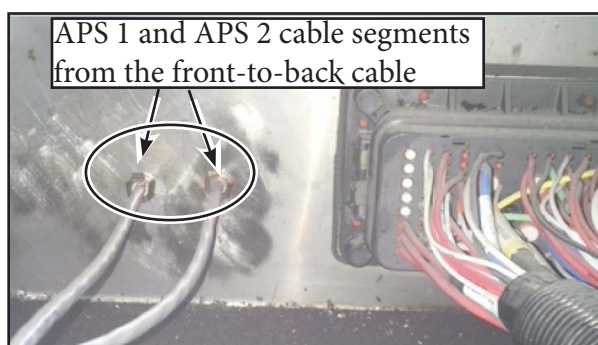

Figure 24 - Insert Both Wires in the +IB-X6499A Area (FSS Side)
- 2.11. Insert the two wires with the cable glands separately into the two holes previously drilled in step 2.3. Torque the cable glands to 3-4.5 N•m (see Figure 24).